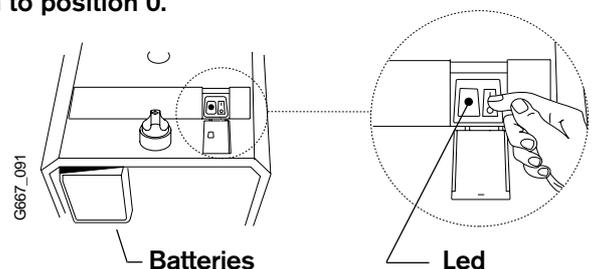

Figure 10
2. The gas valve must be shut off by putting the ON/OFF switch to position "0". Wait five (5) minutes to clear out any gas. If you smell gas, STOP! Follow "B" in the safety information above. If you do not smell gas, go to the next step.
4. Set the ON/OFF switch (flip down cover plate on frontal panel strip) market 1/0 to the 1 position. In this position, the water heater is ready to use. (See Figure 10.)
The On/Off switch is located behind the flipdown cover plate on the front panel strip. See fig. 10.